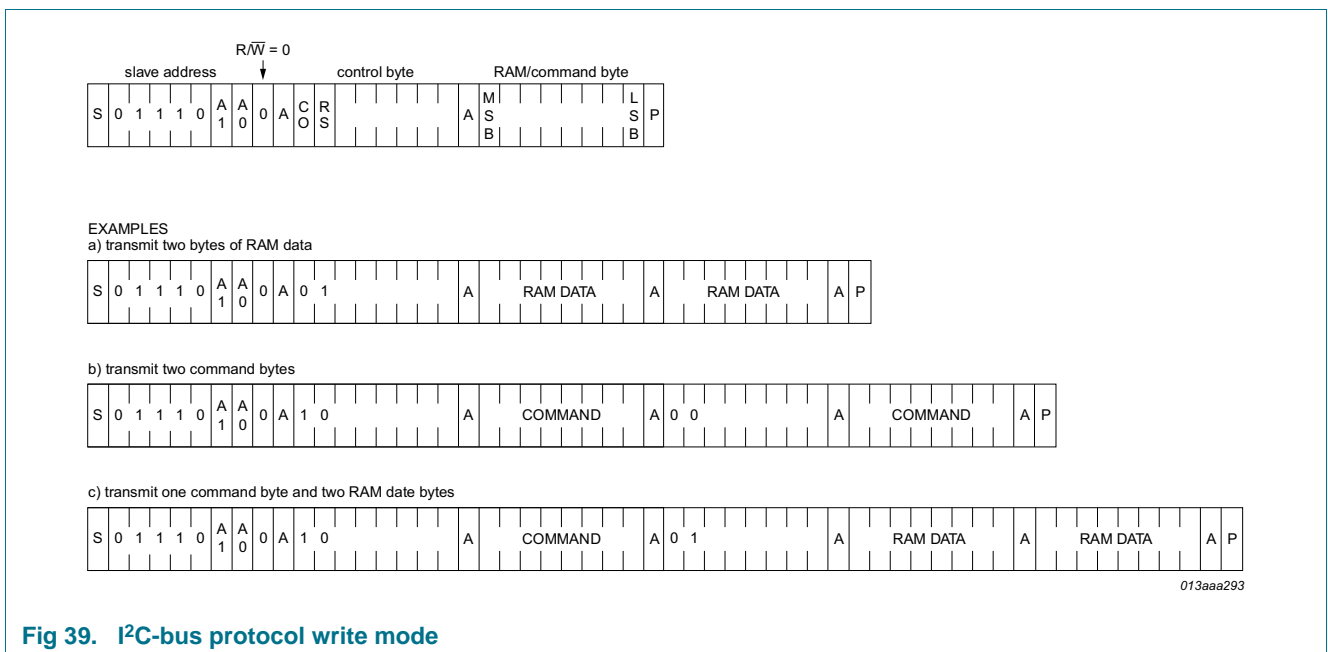

Fig 39. I²C-bus protocol write mode
The I²C-bus protocol is shown in Figure 39. The sequence is initiated with a START condition (S) from the I²C-bus master which is followed by one of the four PCA8543 slave addresses available. All PCA8543's with the corresponding A1 and A0 level acknowledge in parallel to the slave address, but all PCA8543 with the alternative A1 and A0 levels ignore the whole I²C-bus transfer.